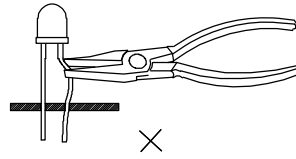

Fig. 7
- During lead forming, use tools or jigs to hold the leads securely so that the bending force will not be transmitted to the LED lens and its internal structures. Do not perform lead forming once the component has been mounted onto the PCB. (Fig. 7)